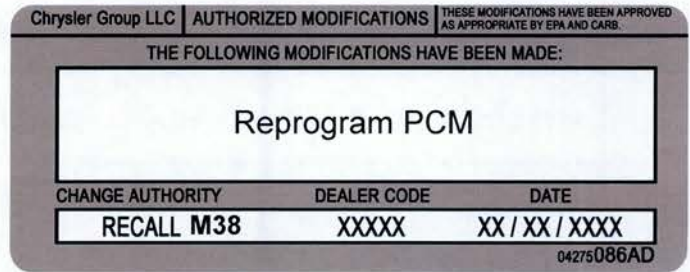

Figure 1 – Authorized Modification Label
1. Type or print (with a ballpoint pen) the recall number, repair modification, dealer code and date on the Authorized Modifications Label (Figure 1).